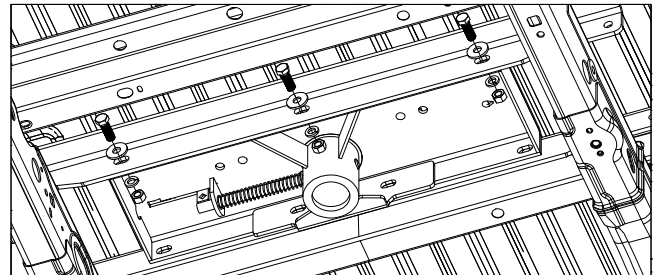
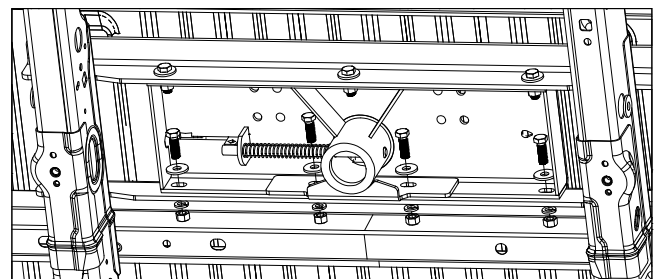

Figure B4: View under bed looking up at center section.
Figure B5: View under bed looking up at center section.
- 4. Attach the cross members to the center.** Locate seven 1/2" X 1 1/2" cap screws, 1/2" flat washers, 1/2" lock washers and 1/2" finish nuts. Slide the rear cross member forward until the flange with the holes is flat against the center section. Align the holes and attach hardware as shown in figure B4. Slide the front cross member back until the flange with the holes is flat against the center section. Align the holes and attach hardware as shown in figure B5. Do not tighten hardware at this time.